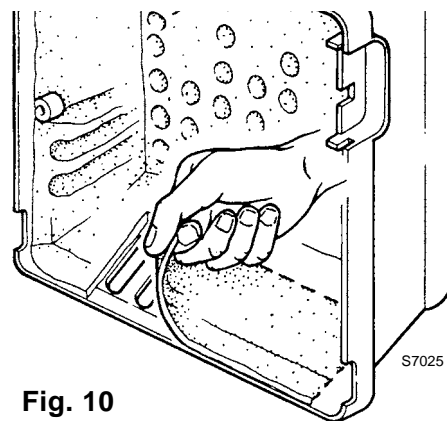

Fig. 10
- A** For the burner to operate over 140 kW, you must remove the blank deadening to free the supplementary slits of the air inlet on the cover, as illustrated in figure 10.